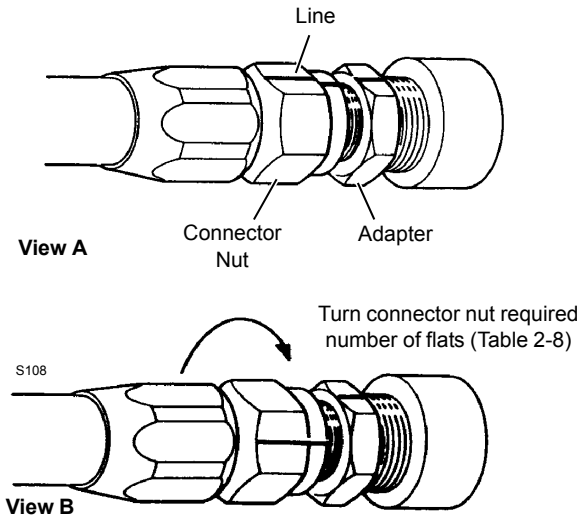

FIGURE 2-12
2. Mark a line (use felt pen or marker) on adapter and extend it onto connector nut (Figure 2-12, View A).
3. Using wrenches, tighten connector nut the number of flats shown in Table 7 (Figure 2-12, View B).